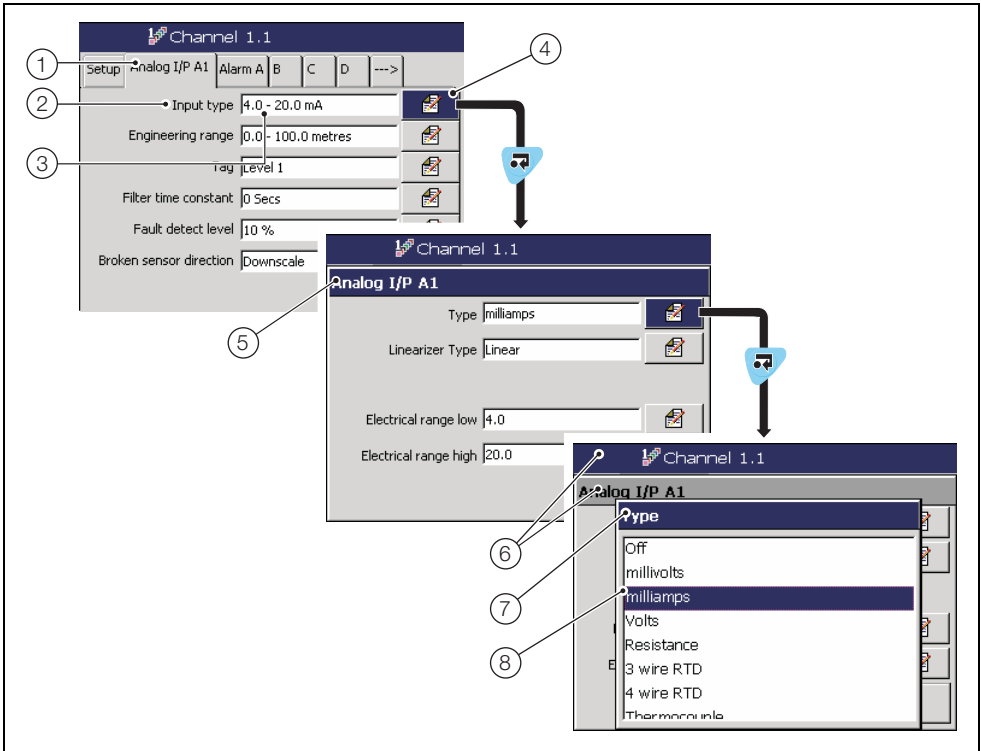

Fig. 7.5 Locating Parameter Settings
2. Make changes to parameters as detailed in Figs 7.5 and 7.6 (pages 70 and 71 respectively) and on-line help.
3. Make changes to parameters as detailed in Figs 7.5 and 7.6 (pages 70 and 71 respectively) and on-line help.
Referring to Fig. 7.5, parameters are located as follows: